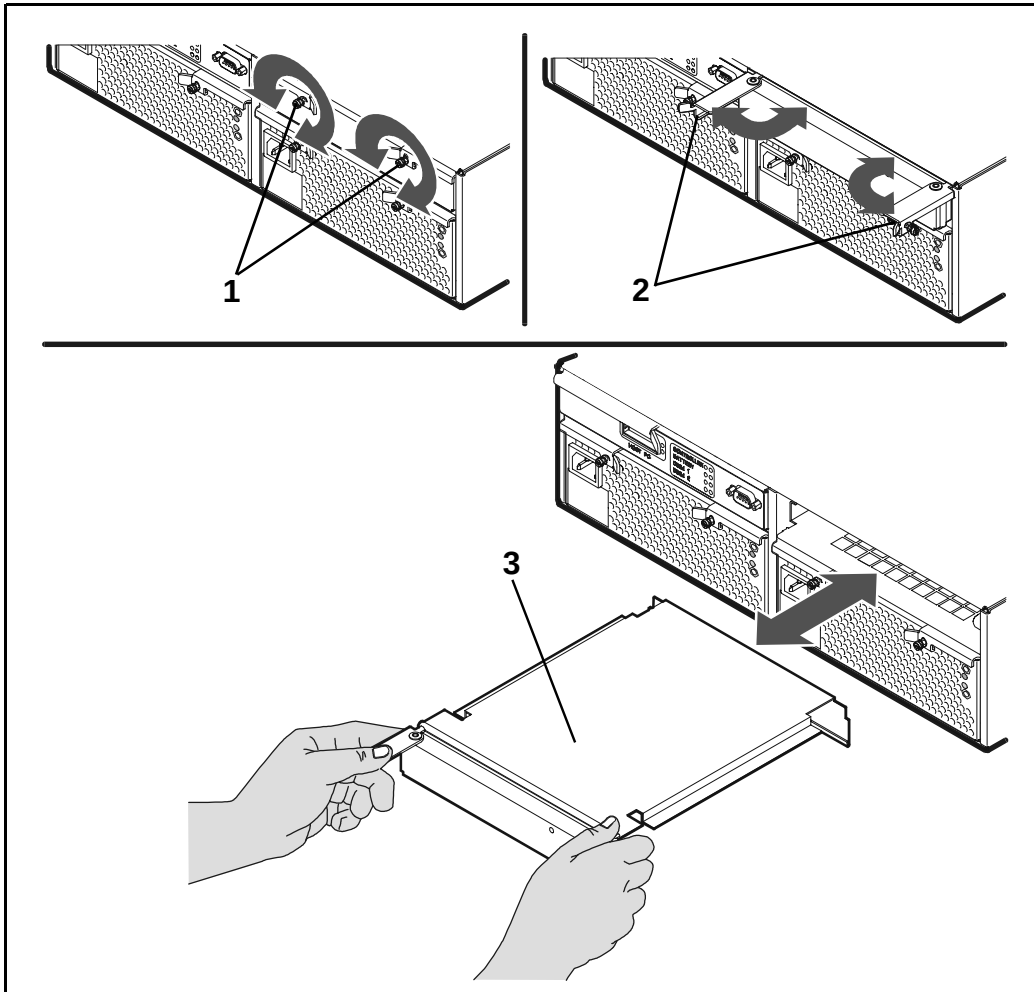

Figure 35 Removing & Replacing an Array Controller Filler Panel
1. Loosen the cam lever screws (Figure 35, 1) with a T-10 driver or flat-blade screwdriver.
2. Pull out both cam levers (2) at the same time.
3. Pull the array controller filler panel (3) out of the slot.
1. Pull out both cam levers (Figure 35, 2) at the same time.
2. Push the array controller filler panel (3) firmly into the slot.
4. Tighten the cam lever screws (Figure 35, 1).